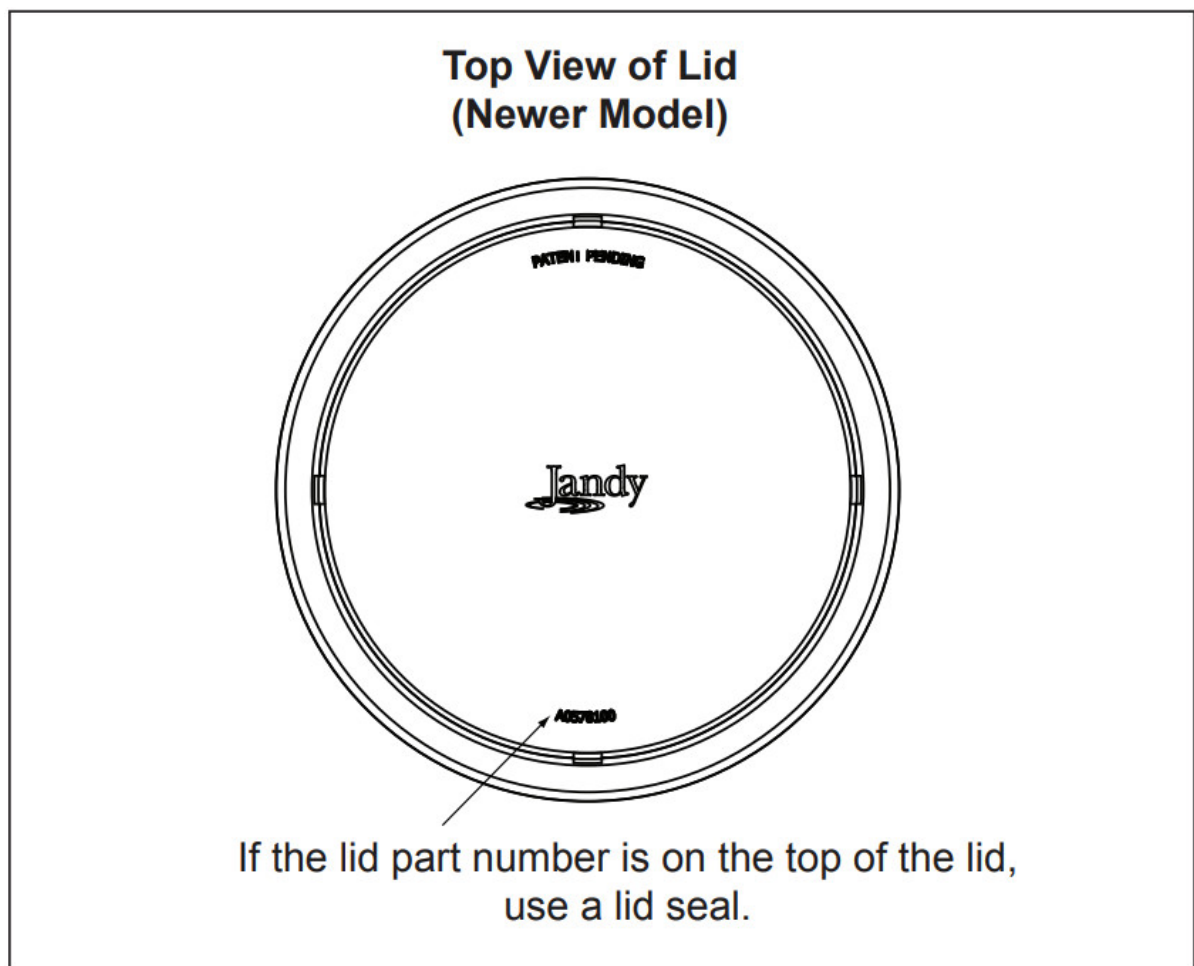

Figure 3. Newer Model Lid
- b. If the part number is on top of the lid (see Figure 3), the pump is a newer model and uses a lid seal. Go to Step 3.